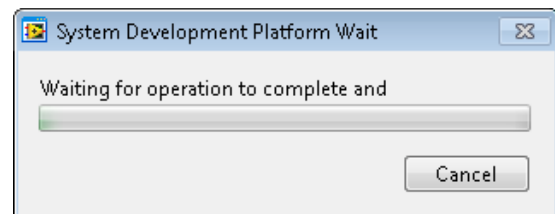

Figure 17. Software Connects to **SDP-H1** Board
- The software then connects to the board and displays the message shown in Figure 17.